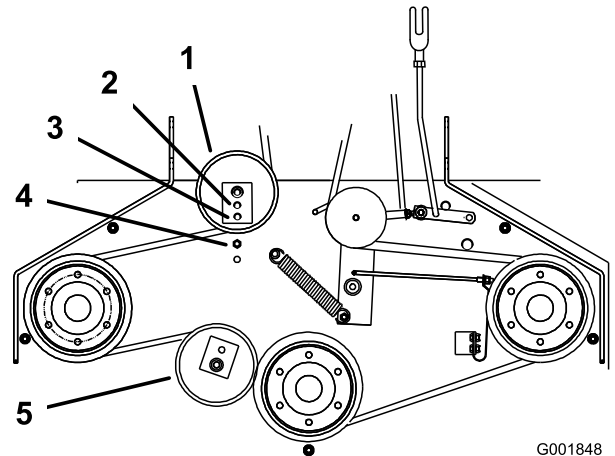

Figure 51
positioned to the middle or front hole (Figure 51). Use the hole that will give the correct adjustment.
7. When the idler pulley is moved the belt guide must be moved. Move the belt guide to the front position (Figure 51).